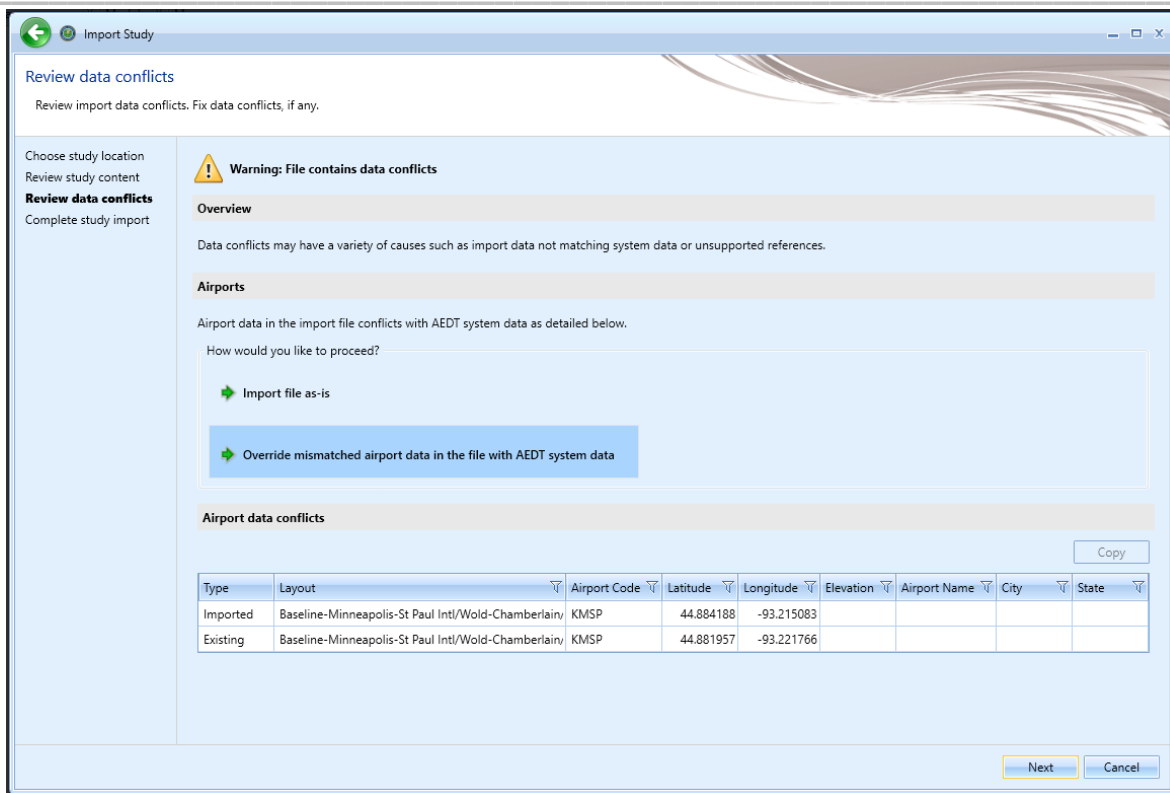

Figure 38- Review data conflicts
5. The *Review data conflicts* step displays any conflicts between study airport data and AEDT airport data. (Figure 38) (Note: Latitude/Longitude/Altitude mismatches between EDMS and AEDT airport location data and EDMS airport codes that are not in the AEDT database are identified)